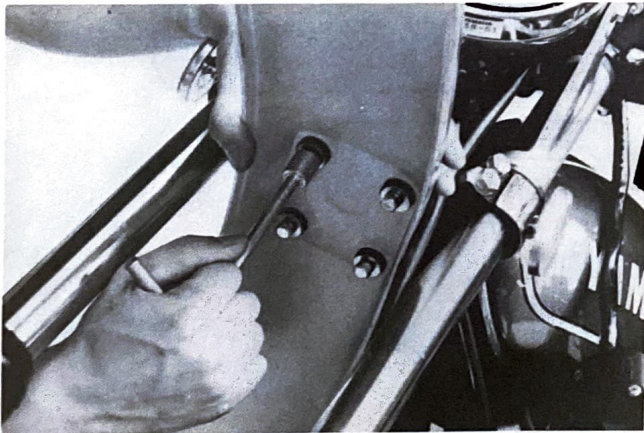

Fig. 8
5. Insert the front fender between the front forks from the under, and secure the front fender using 6-mm bolts, spring washers and plain washers, four each. (Fig. 8)